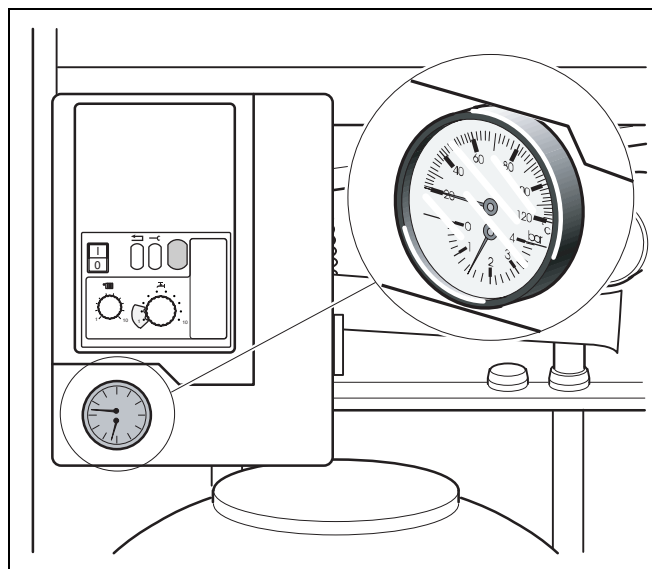

fig. 26 Pressure display
- Fill the system to a pressure of 1.0 to 1.2 bar (fig. 26, item 1). Max. water pressure is 2.0 bar.